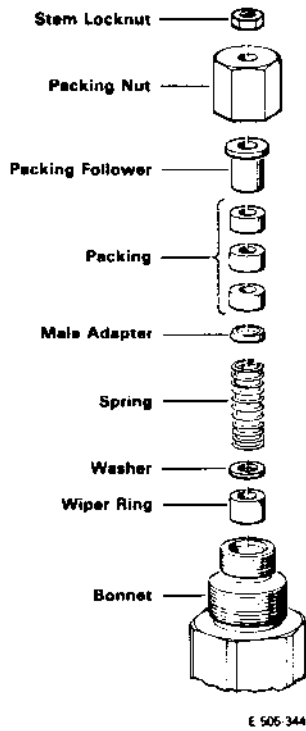

Figure 17. Optional Packing Catalog No. Code J2 Spring Loaded Graphite
- b. **Graphite Packing** — Install packing in the order shown in Figure 17 or 18, choosing the view that applies to the packing being replaced. Be careful not to damage packing on valve stem threads.